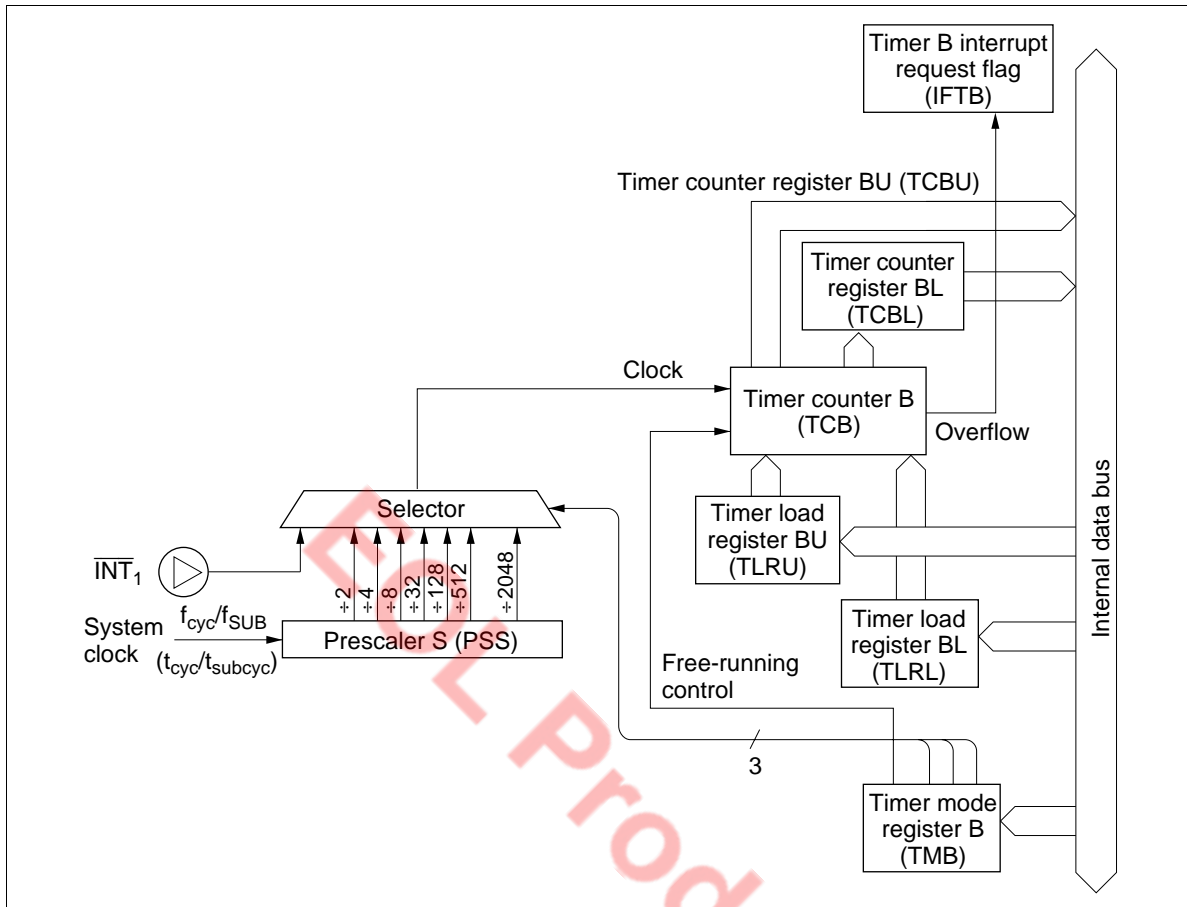

Figure 27 Timer B Block Diagram
**Timer B (TCBL and TLRL: \$00A, TCBU and TLRU: \$00B):** Eight-bit write-only timer load register (TLRL and TLRU) and read-only timer counter (TCBL and TCBU) located at the same addresses. The eight-bit configuration consists of lower and upper 4-bit digits located at sequential addresses. A block diagram of timer B is shown in figure 27.